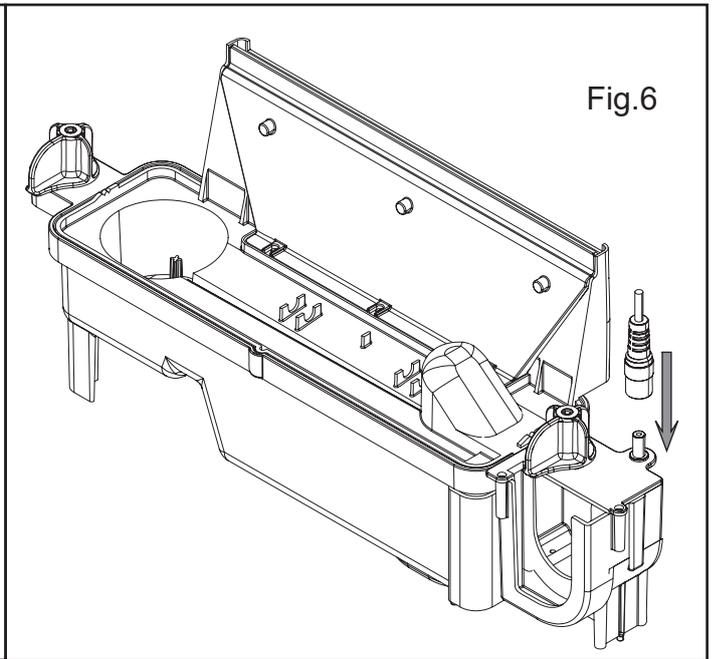

Fig.6
4. Disconnect the electrical connector, located on the right side of the sump. (See Fig.6) .